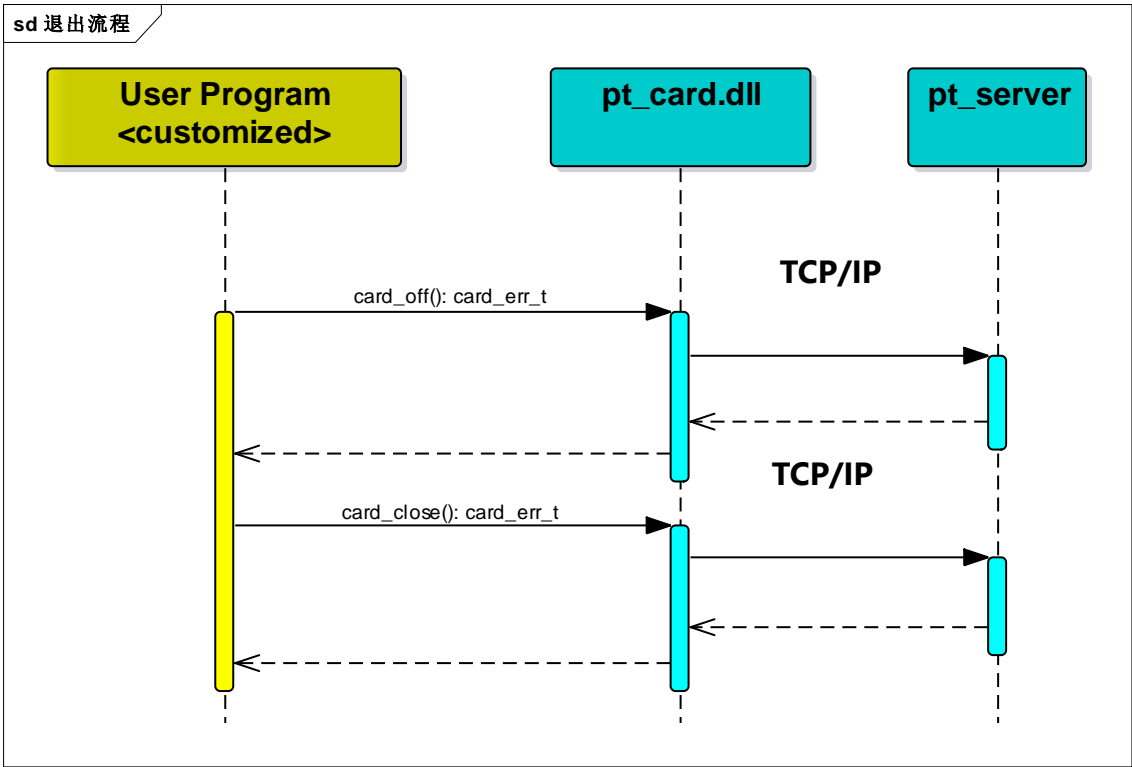

Figure 3.3 Exit Process
- Exit process: The user program completes the operation of disconnecting the reader by calling the interface function of pt_card.dll, as shown in Figure 3.3.